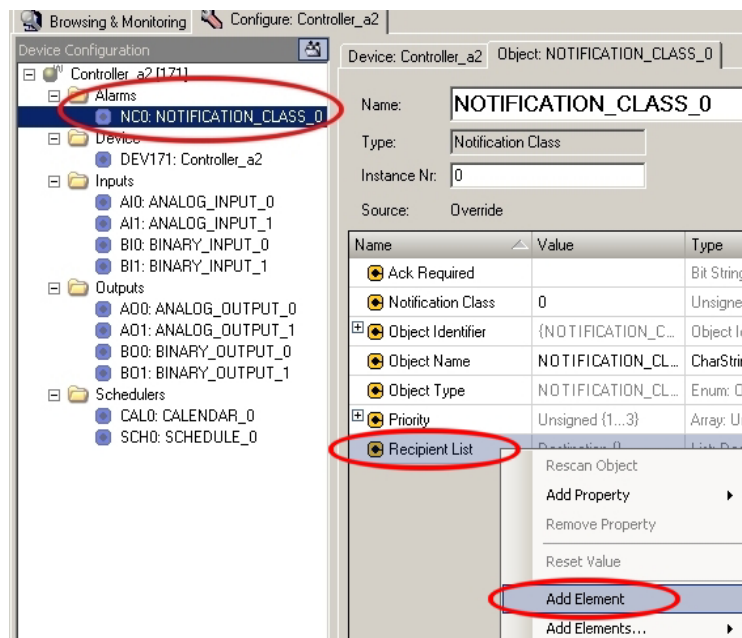

Fig. 4-16: Entering new recipients for alarms
21. Click with the right mouse button on **Recipient List** and select **Add Element(s)** to add new recipients to the recipient list for the object's alarms (see Fig. 4-16).